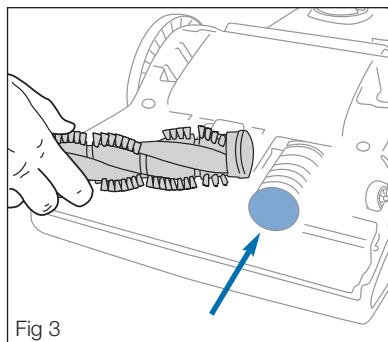
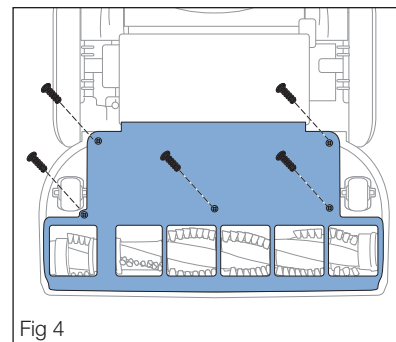
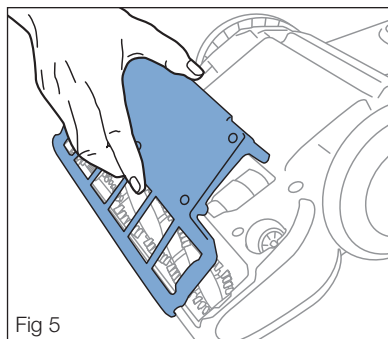

Fig 3
Fig 4
Fig 5
- To clear inlet hose: Lay vacuum face down. Remove 5 screws (Fig. 4); lift off brush roll cover (Fig. 5). Clear blockage from base hose (Fig. 3). Clear debris from brush roll. Replace cover and 5 screws.
- Lay vacuum face down; remove 5 screws (Fig. 4).
- Lift off brush roll cover (Fig. 5)